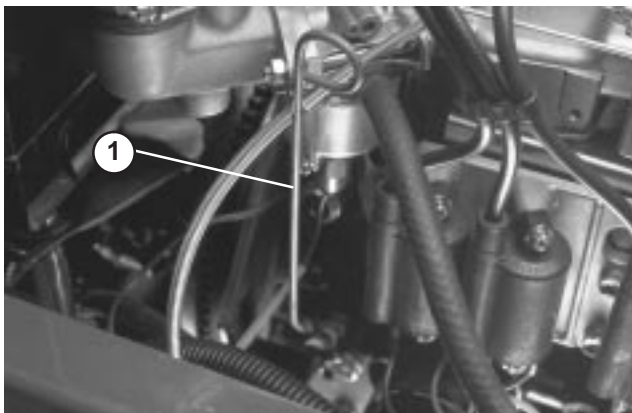
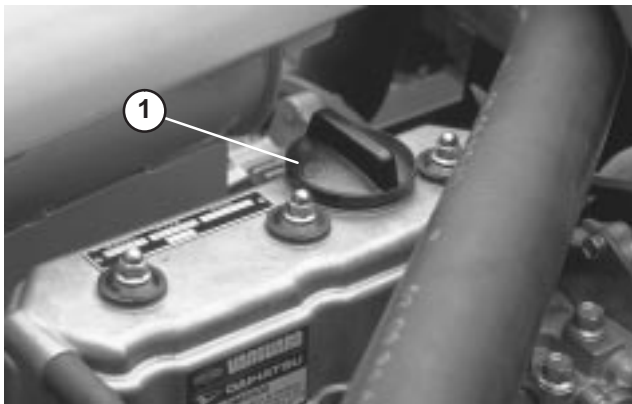

Figure 13
Figure 14
2. Remove dipstick and wipe it with a clean rag. Insert dipstick into the tube and make sure it is seated fully. Remove dipstick and check level of oil (Fig. 13). If oil level is low, remove oil fill cap (Fig. 14) and add enough oil to raise level to FULL mark on dipstick. Do not overfill.